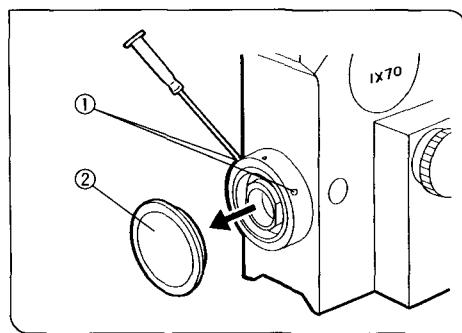
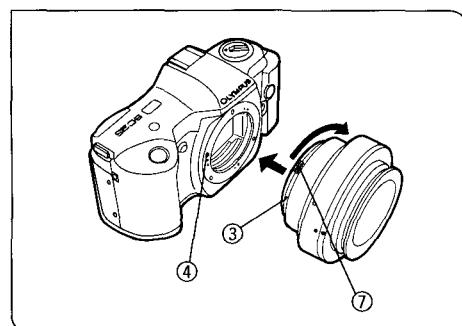

Fig. 42
Fig. 43
1. Using the Allen screwdriver, loosen the two OM camera adapter clamping screws ① on the SLR port. (Fig. 42)
2. Use a sharp object such as the tip of a superfine screwdriver or a mechanical pencil to remove the plastic cap ② from the SLR port.
3. Aligning the red dot ④ on the SC35 camera and the red dot ③ on the OM mount of the OM camera adapter, insert the OM mount into the camera and turn it clockwise until a click is heard. (Fig. 43)
- ◎ To detach the mount from the single-lens reflex camera, rotate the camera counterclockwise while pressing down the button ⑦ on the mount. (Fig. 43)